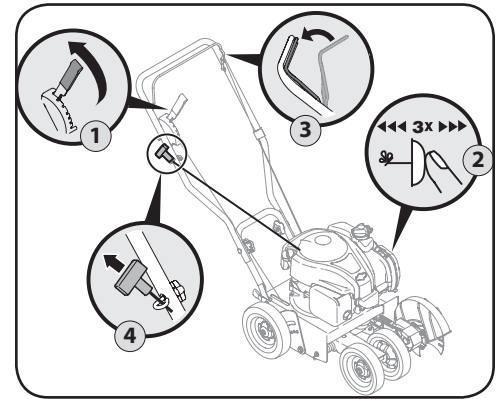

Figure 4-2
2. Push the primer three times. See Figure 4-2. Do not prime to restart a warm engine.
4. With your right hand, grasp recoil starter handle and pull rope slowly until resistance is felt, then pull with a rapid, continuous, full arm stroke. See Figure 4-2. Keeping a firm grip on the starter cord handle, let the rope rewind slowly. Repeat until engine cranks. Let the rope rewind each time slowly.